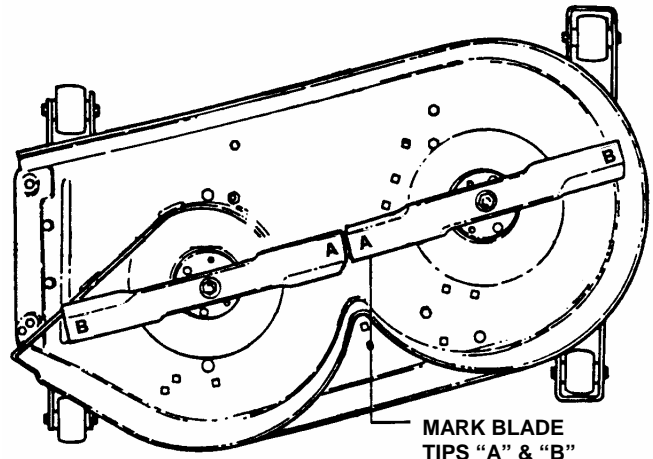

FIGURE 4.7
11. Mark each blade's tips as "A" and "B". See Figure 4.7.
13. Measure the distance between both "A" blade cutting edges and deck. See Figure 4.7.